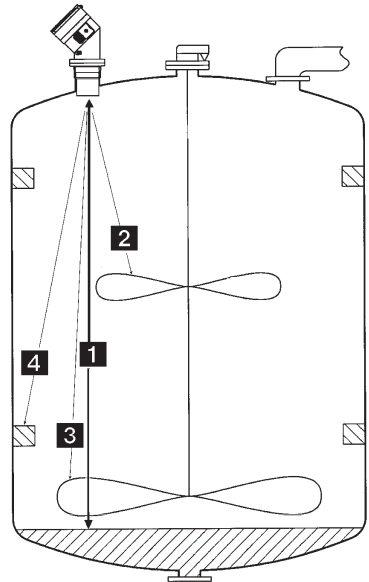

Fig. 4.1 Echo Filtering
- Enter the distance "1" between the base of the sensor and the fluid surface and press 'Enter' (fig.4.1) and the transmitter will process the information for approx. 10 seconds.